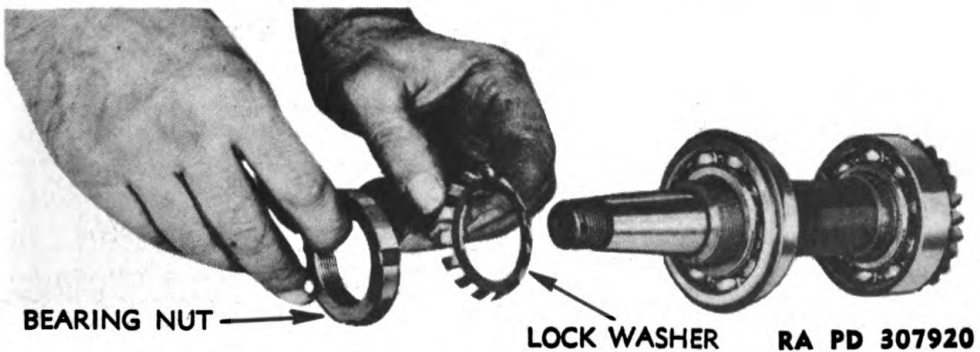

Figure 113 – Installing Lock Washer and Bearing Nut
(1) **ASSEMBLY GEAR SHAFT AND BEARINGS.** Press inner bearing (without snap ring groove in outer race) onto shaft against gear. Install snap ring in groove of shaft next to bearing and install second snap ring in second groove in shaft (fig. 110). Install snap ring in groove of outer bearing race and press bearing onto shaft against snap ring in shaft (fig. 110). Place lock washer on end of shaft against outer bearing and install and tighten bearing nut with spanner wrench (fig. 113). After tightening nut, bend one or two prongs of lock washer into slots of nut.